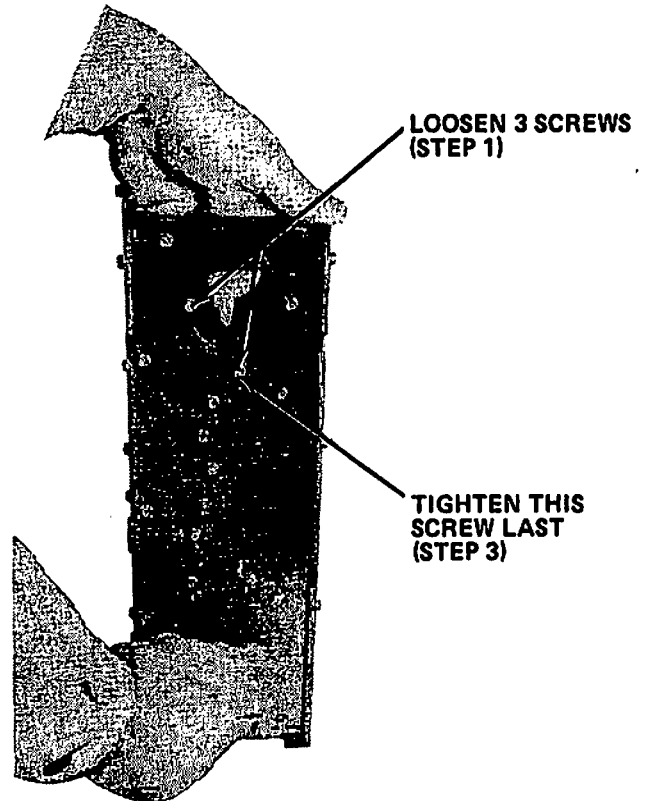

FIGURE 22 ADJUSTING HOPPER CHAIN
1. Loosen (3) screws at top back of hopper which will allow black plastic upper chain guide ring to move diagonally upwards.
2. Pull upper chain guide ring up as shown in figure 22, while rotating drive pin clockwise until slack is removed from chain but no bind is evident.